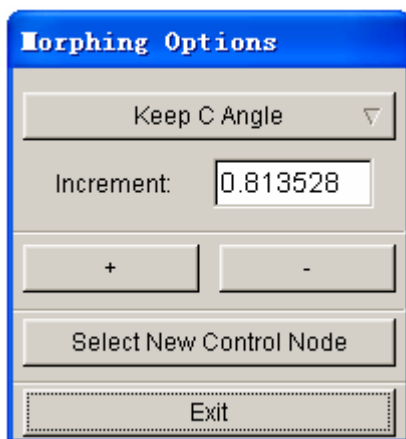

Figure 6.5.7 Morphing dialog box
- After the node is selected, the dialog box as illustrated in Figure 6.5.7 is displayed.